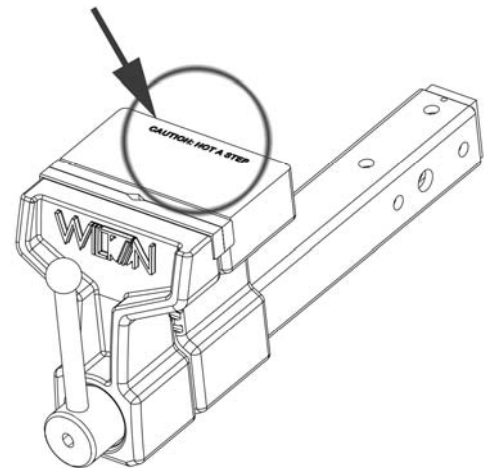

Figure 1
3. Do not use the vise as a step; it may cause an individual to slip and fall. This caution is also inscribed in the anvil of the vise – see Figure 1.